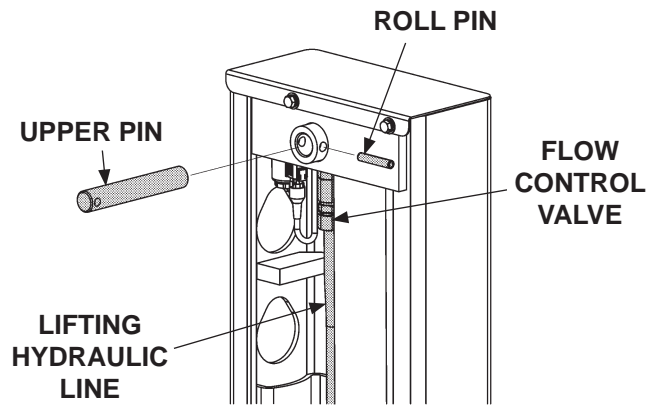

FIG. 36-1
27. Holding the cylinder firmly, reinstall upper pin and roll pin (**FIG. 36-1**). Then, reconnect lifting line to flow control valve (**FIG. 36-1**).